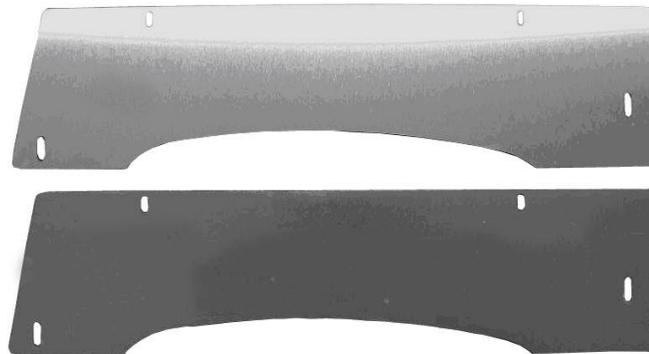

Figure 9.
- Locate the two flat, hold down brackets, shown in Figure 9.
2. Locate the two flat hold down brackets, shown in Figure 9.